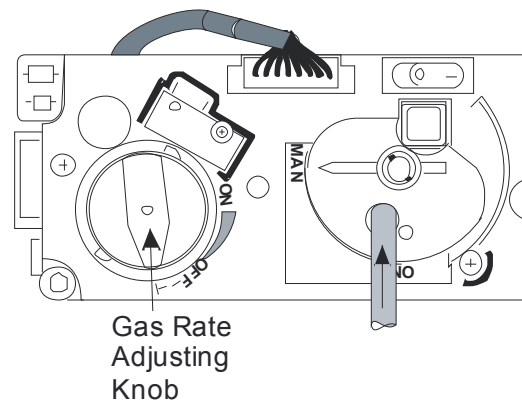

Figure 15
4. Using a rigid slender object (like a screwdriver) depress the pilot valve operator through the large hole in the knob (see **Figure 15**) and light the pilot using a match or lighted taper.
9. To turn the pilot off place the **ON/OFF** switch to **OFF (O)** position.